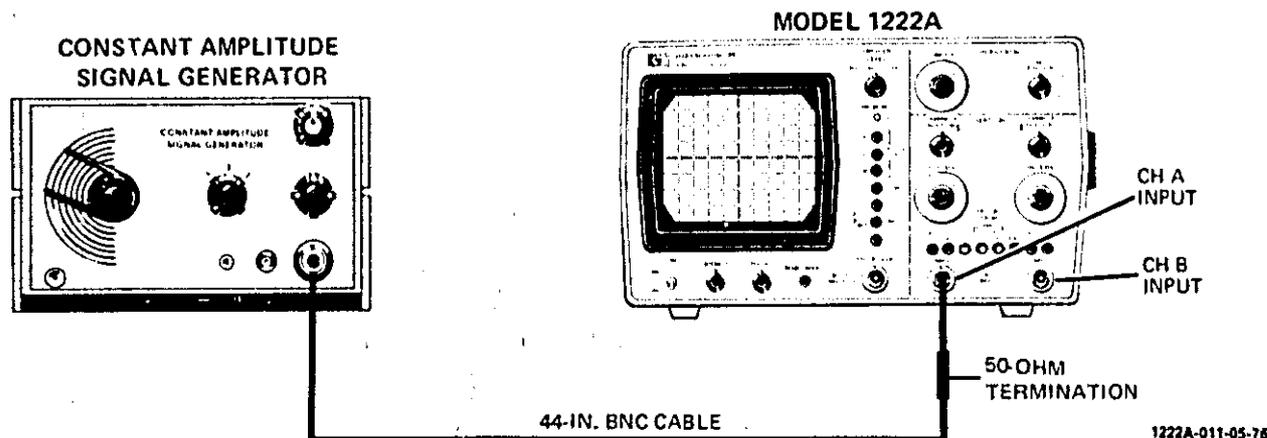

Figure 5-3. Bandwidth Test Setup
- a. Connect equipment as shown in figure 5-3.